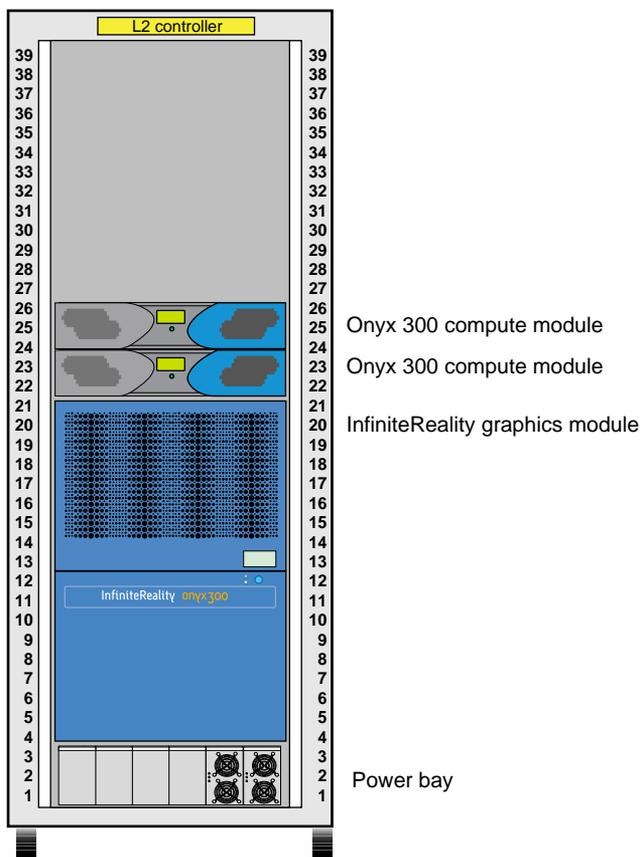

Figure 1-18 Unit Numbering within Rack
Note: One unit (U) is equal to 1.75 in. (4.445 cm). (refer to Figure 1-18).
The components within the rack are identified by the lowest unit number that they occupy. For example, the top Onyx 300 compute module shown in Figure 1-18 is identified as U24.